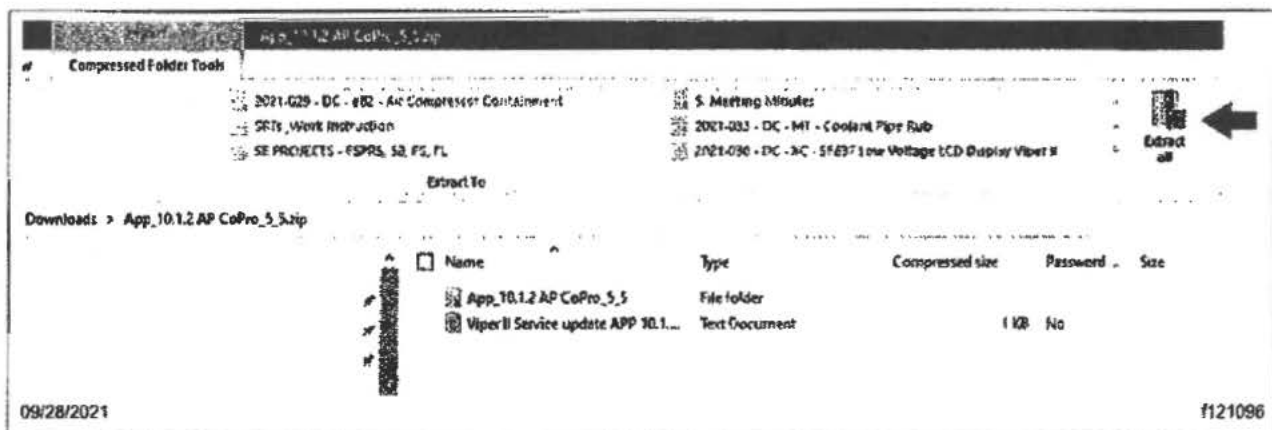

**Fig. 6, Extract All Button**
7. Select the 'Extract All' button. See Fig. 6.